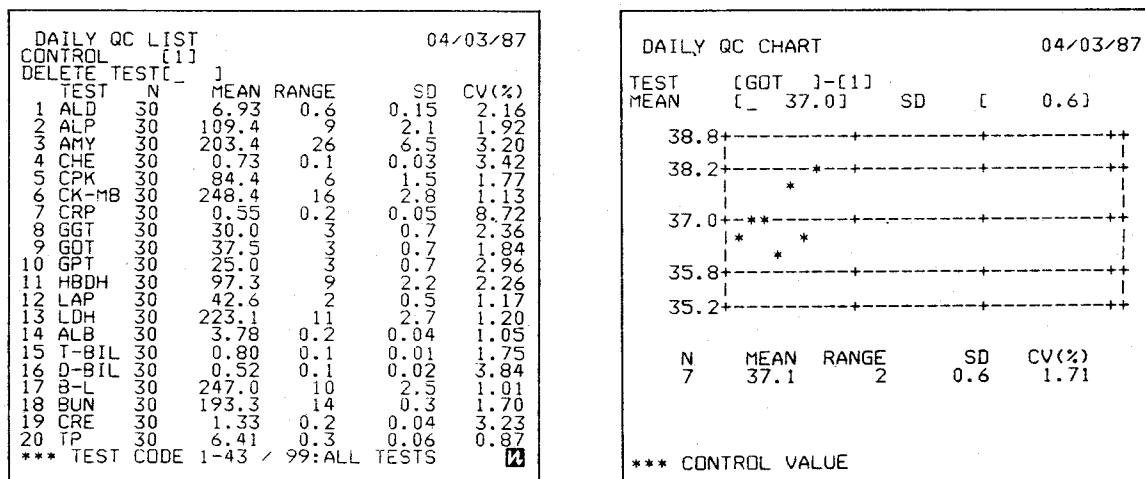

Fig. 3-50 Examples of DAILY QC Screens
This instrument has the DAILY QC LIST screen through which the operator can check the control mean value ( $\bar{X}$ ), variation range (RANGE), standard deviation (SD), and coefficient of variation (CV%) for each test. Also, the operator can check the latest 30 results graphically on the DAILY QC CHART screen. Figure 3-50 shows examples of the DAILY QC LIST and DAILY QC CHART screens.